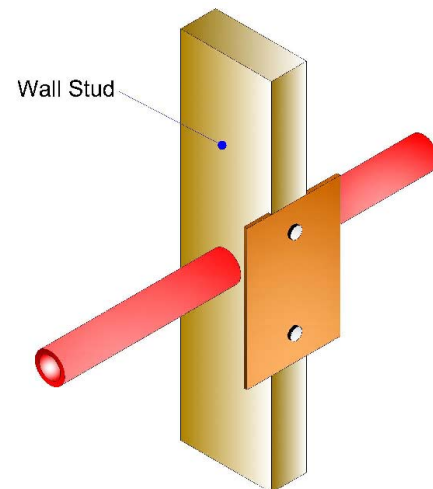

Fig 1
- Protect pipe with steel plate if it is within 2" (50 mm) of a stud, plate or nailing surface (see Figure 1).